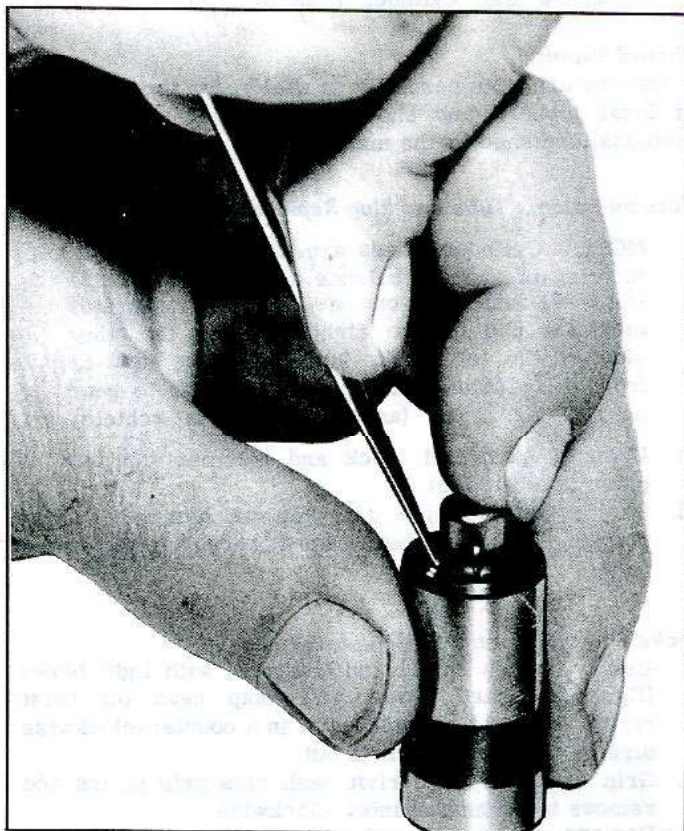

Fig. 95—Installing Ball Check Valve
2. Insert check ball spring on seat in ball retainer and place retainer over ball so spring rests on the ball. Carefully press the retainer into position in plunger with the blade of a small screw driver (fig. 95).